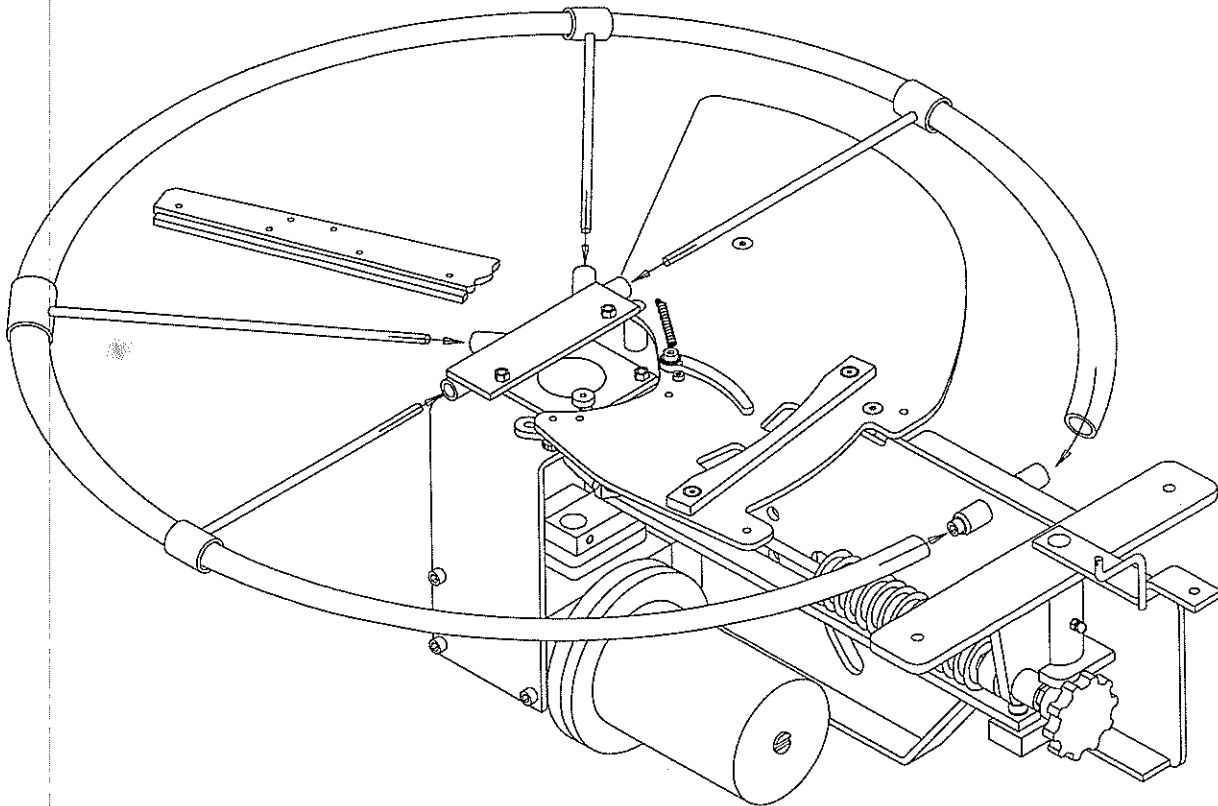

FIGURE 4 - THROWING ARM PATH INDICATOR MOUNTING
Assemble the throwing arm path indicator (see figure 4) by sliding the four (4) tubing support rods over the end of the safety tube. Position the support rods so the ends will line up with the mounting bracket located on the clutch bearing assembly. After inserting the four (4) support rods into the mounting bracket, push the two ends of the tube over the mounting pins located farther back on the trap.